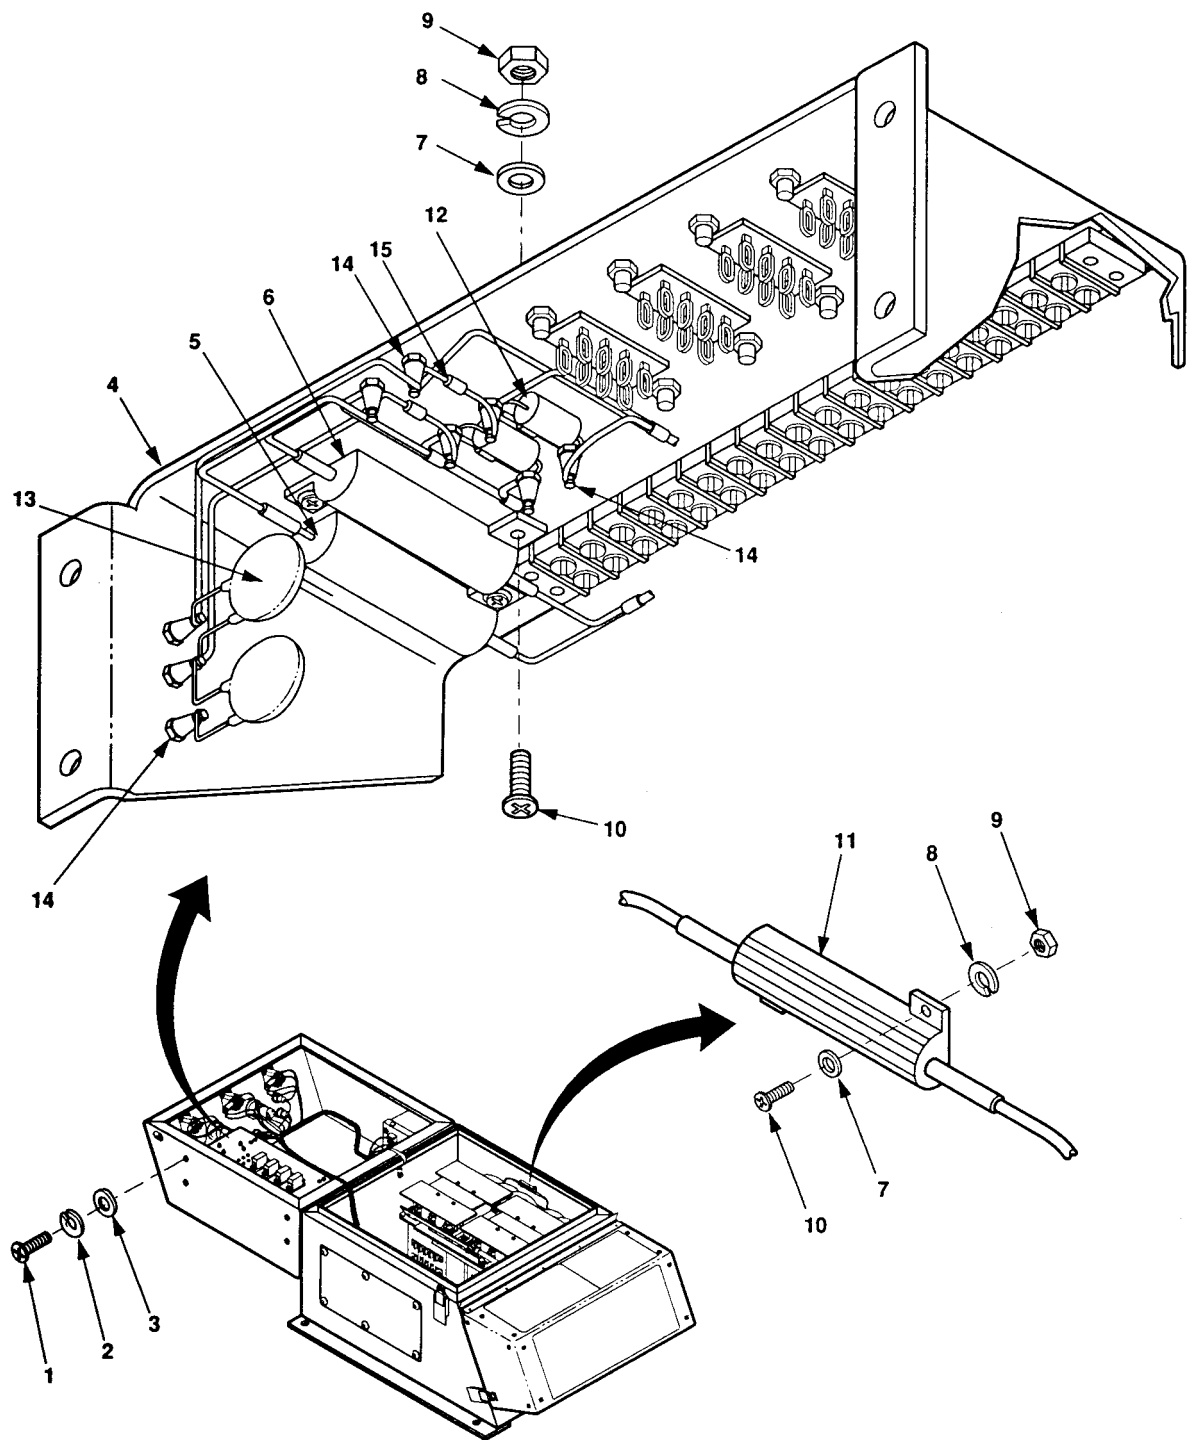

Figure 5-20. Resistors, Capacitors, and Diodes.
1. Remove four screws (1, figure 5-20), lock washers (2), and flat washers (3) and invert relay board assembly (4).
2. Measure resistance of R1 (5) or R2 (6) for 246.5-251.5 ohms. If resistance is out of tolerance, replace resistor.
3. Measure resistance of R3 (11) for 2465-2515 ohms. If resistance is out of tolerance, replace resistor.
4. If resistors R1 and R2 are within tolerance, place relay board assembly in position and secure with flat washers (3), lock washers (2), and screws (1).
2. Discharge capacitors C1 and C2 (12) and C3 and C4 (13) by shorting across terminals.
6. If capacitor passes test, place relay board assembly (4) in position and secure with four flat washers (3), lock washers (2), and screws (1).
2. Unsolder one end of diode (15) to be tested.